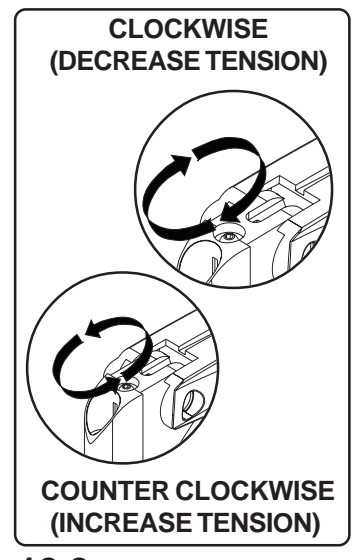

fig. 12.2
Adjustment to the arm assembly may also be required if the arm tends to drift down or rise up. The adjustment screw is located at the back of the arm (B). **To decrease tension, adjust the tension clockwise. To increase tension adjust counter clockwise.** (fig. 12.2)